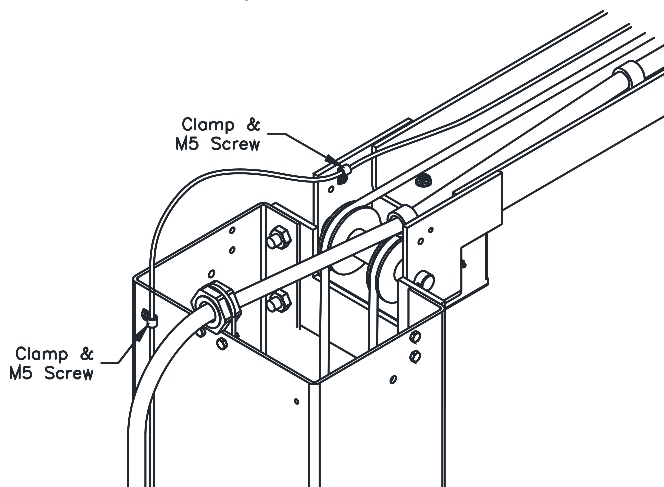

Fig. 9 – Lock Cable Routing
29) Secure Lock Release Cable at the top of each column extension as shown in Fig. 9. Lock Release Cable should be routed on the opposite side of the Overhead Beam as the Idler Hose to prevent interference.